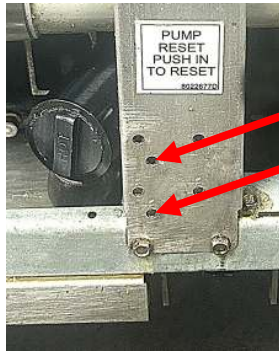

Figure 8
9. Drill two pilot holes **smaller than 5/32"** in the vertical support to match the existing holes on the pre-filter mount base (see Figure 8).